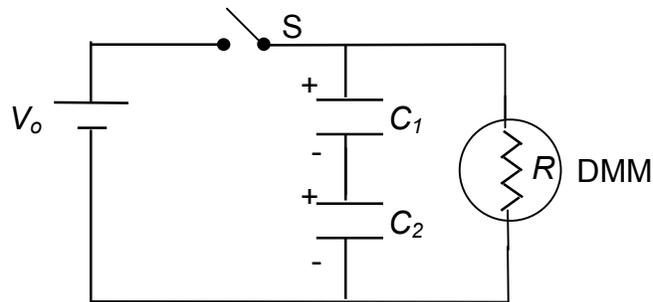

FIGURE 4
3. Build the circuit shown in Fig. 4 below. Find the time constant for this series combination of C_1 and C_2 and R .